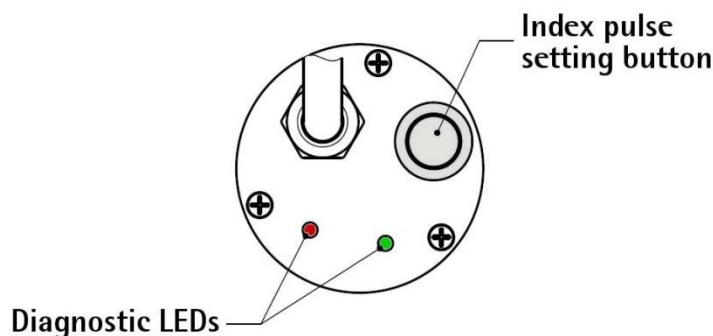

Figure 1 - Diagnostic LEDs and Index pulse setting button
It is possible to set the 0 pulse position also by either pressing the external button located in the rear side of the encoder enclosure -see the section “4.11 *Index pulse setting external button (Figure 1) (ENC58 models only)*” - this option is available only on ENC58 models; or by means of the programming interface -see the **Index position** parameter on page 23.
4.10 Diagnostic LEDs (Figure 1) (ENC58 models only)
4.11 Index pulse setting external button (Figure 1) (ENC58 models only)